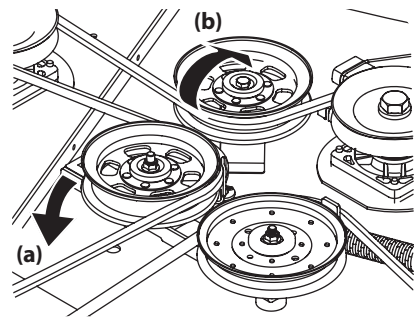

Figure 34
- b. Working from the middle of the mower, pivot the idler bracket and movable idler pulley rearward from the backside of the "V" belt (a) just far enough to lift the belt up and over the idler pulley (b). See Figure 34.